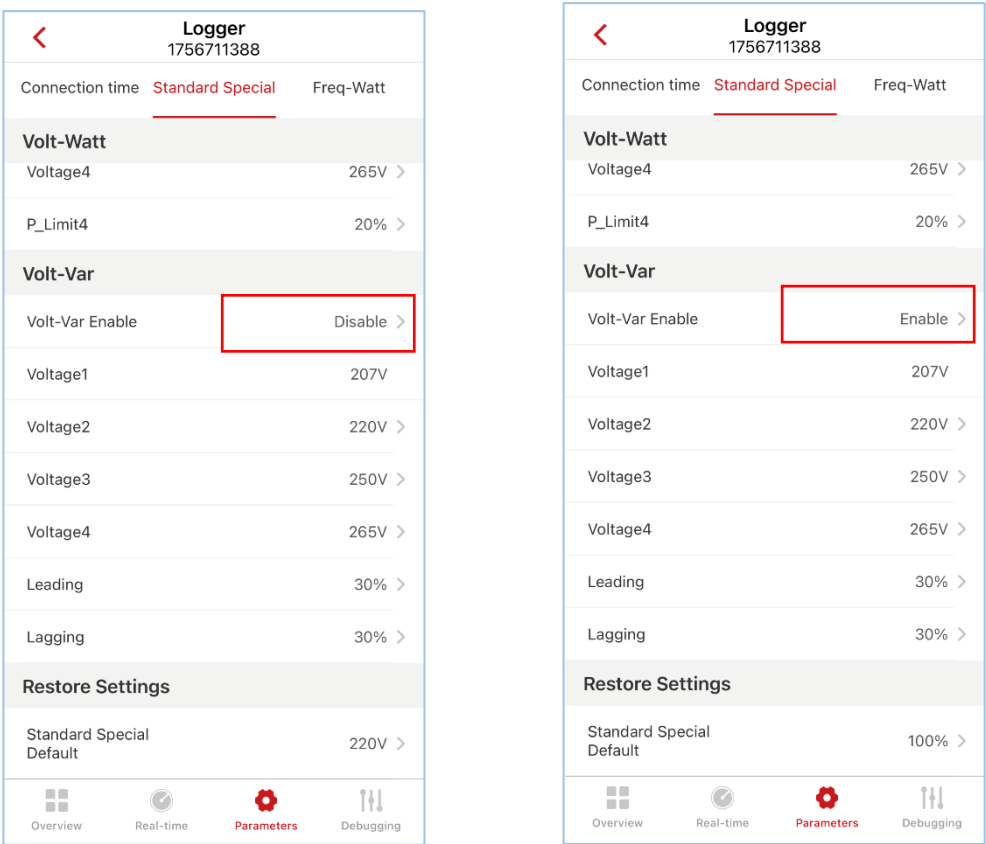

FIG. 9.6 Reactive Power Regulation for Voltage Variation (Volt-VAr mode)
b) Reactive power regulation for voltage variation (Volt-VAr mode), as per FIG. 9.6